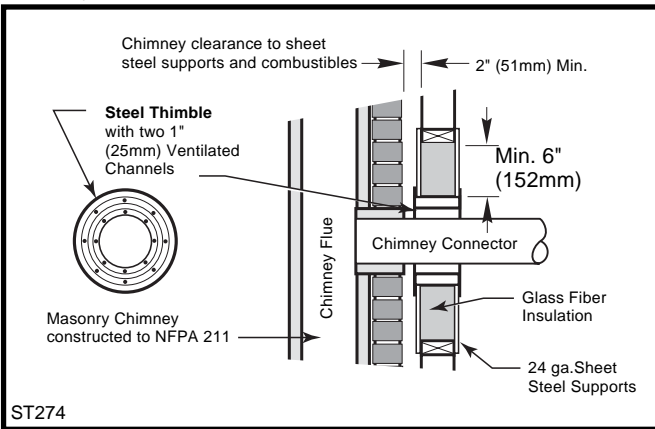

Fig. 11 Wall Pass-through using single wall chimney connector with a ventilated steel thimble.
- Placing a chimney connector pipe inside a steel double-wall ventilated thimble, which is then separated from combustibles by 6" (150 mm) of fiberglass insulating material. (Fig. 11)